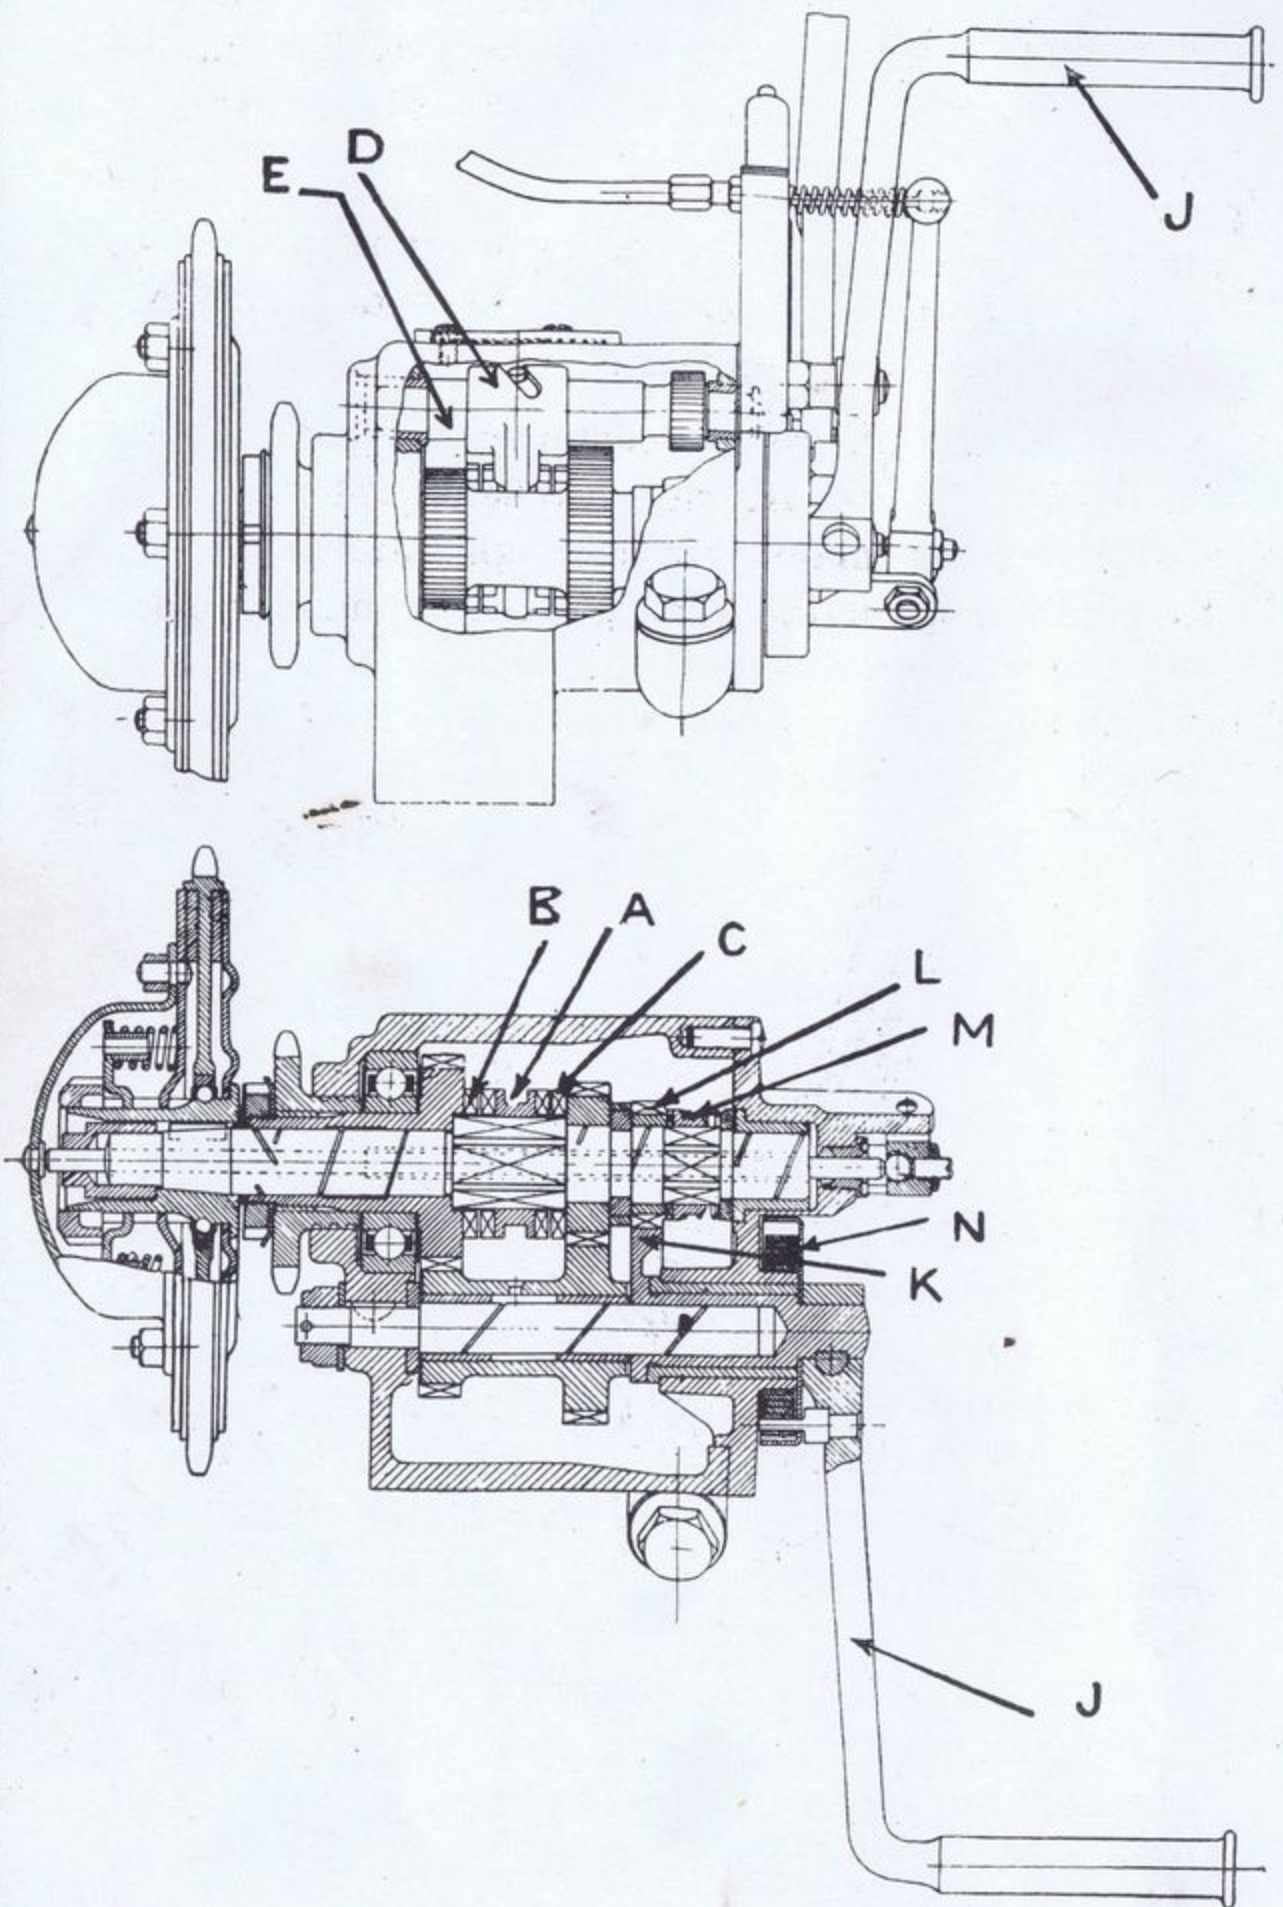

Fig. 4.
THE B.S.A. two-speed gearbox as fitted to the 2.49h.p. model is of the countershaft type, with all pinions in constant mesh and external dry-plate clutch. The gear change is effected by sliding dog-clutch "A" (Fig. 4, page 22) to engage with dog-clutch "B" for high gear and dog-clutch "C" for low gear. In the intermediate position the gears are in neutral position, i.e., engine disconnected from rear wheel.
Movement of the kickstarter "J" rotates quadrant "K," driving ratchet pinion "L," which rotates mainshaft through ratchet "M," thus rotating engine through the primary chain (Figs. 4 and 5).
1. Unscrew the cap from the oil filling orifice on the rear of the box (Fig. 4, page 22) and inject B.S.A. Special Cylinder and Gearbox Oil (*see* page 9) until the oil level is nearly to the top of the filler boss.